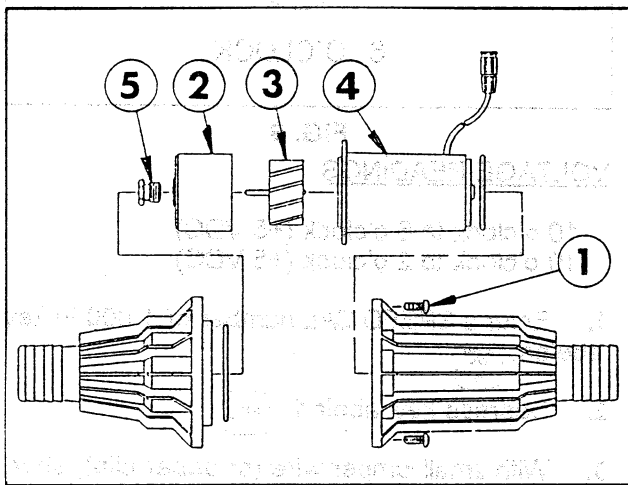

FIG. 7
3. Remove flange bolts from the Flow Meter. See FIG. 7.